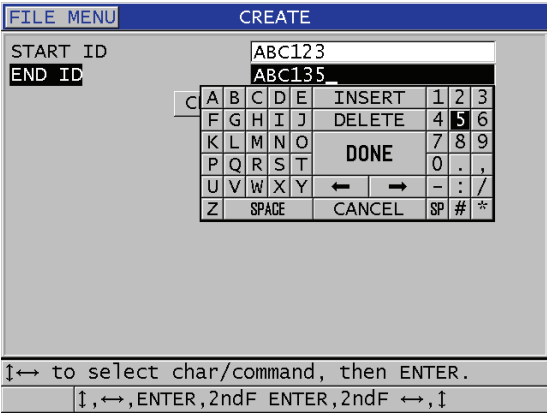

Figure 11-5 Selecting the ID range for the sequential file type
3. In the second page of the **CREATE** screen (see Figure 11-5 on page 160):